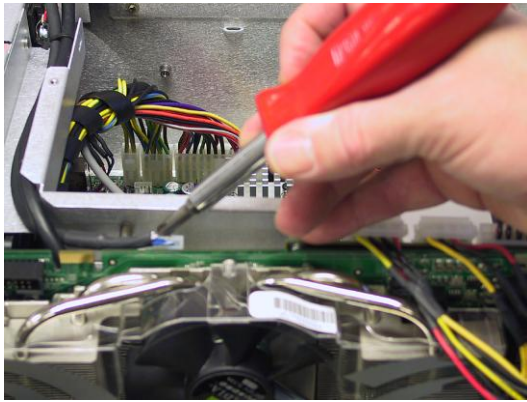

**Figure 4-59**
6) Use a Phillips #1 screwdriver to remove the two 4-40 screws attaching the power distribution assembly to the side of the inner chassis (Figures 4-59).